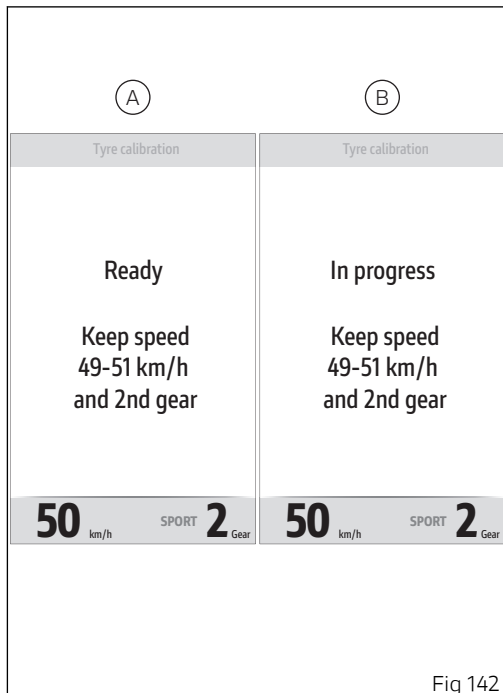

Fig 142
The procedure can be aborted by holding button (1) pressed for a long time: in this case the instrument panel displays all previous information, replacing message "In progress" (B, Fig 142) with message "Aborted" (D) followed by the previous menu after a few seconds.